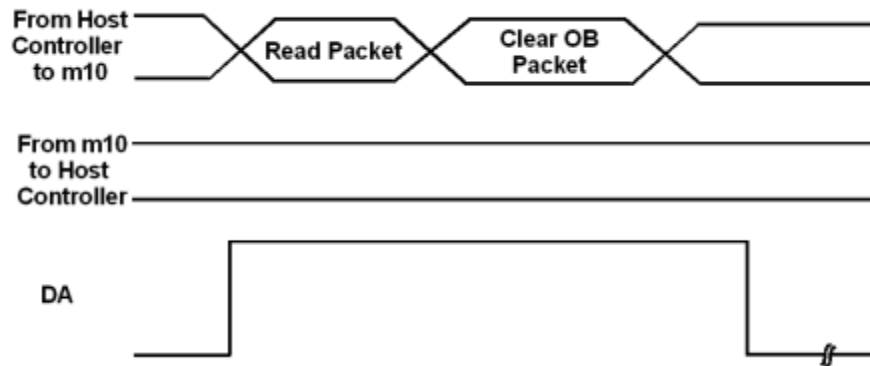

Figure 7: Timing Diagram for Data Available
The Data Available signal is driven high when the m10 receives messages, user commands, or GlobalGrams from the satellite. The signal goes low only after the host controller has cleared the outbound (OB) queue. The m10's timing diagram for DA is shown in Figure 7.